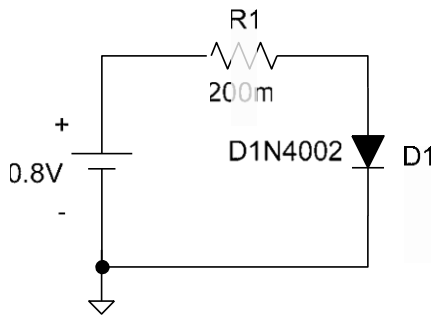

Figure 1
8. Draw and complete the diode circuit shown in Figure 1 in which $R = 200\text{m}\Omega$. You can click the left mouse on the device or element and choose Attributes from the Edit menu. Alternatively, you can change the attributes of any devices or elements by double clicking the left mouse and giving new values.
9. Analyze the circuit of Figure 1 by choosing Analysis from Schematic menu.